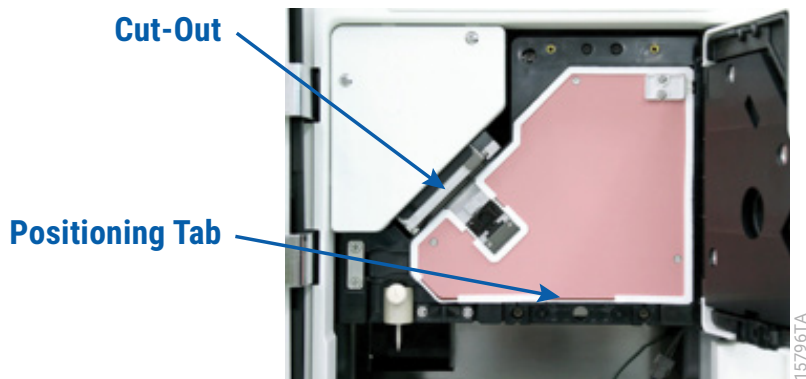

Figure 36. Cut-out section and positioning tabs in oven.
8. While holding the Spectrum Compact Capillary Cartridge by its yellow gripping knob, insert into the cut-out section in the oven unit first, followed by the bottom edge of the cartridge into the positioning tab in the oven (Figure 36).